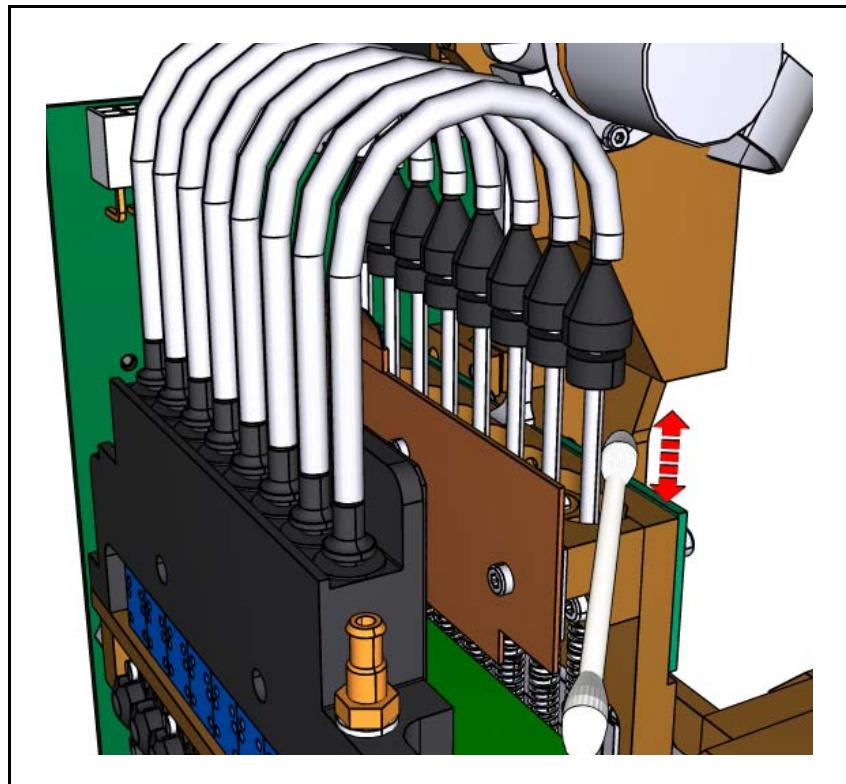

Figure 16-15. Lubricate vacuum tube.
3. Use a Q-tip to clean and lubricate (K-012-0085 HYDRAULIC OIL) the vacuum tubes, see Figure 16-15. Make sure the vacuum tube is clean before applying oil.